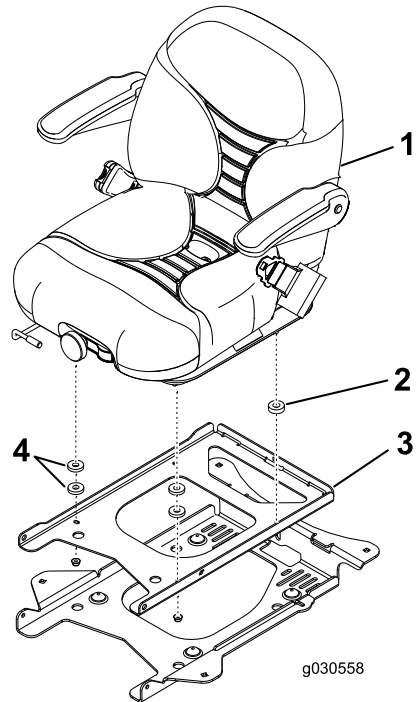

Figure 16
- For deluxe seats only, install the spacers as shown in Figure 16.